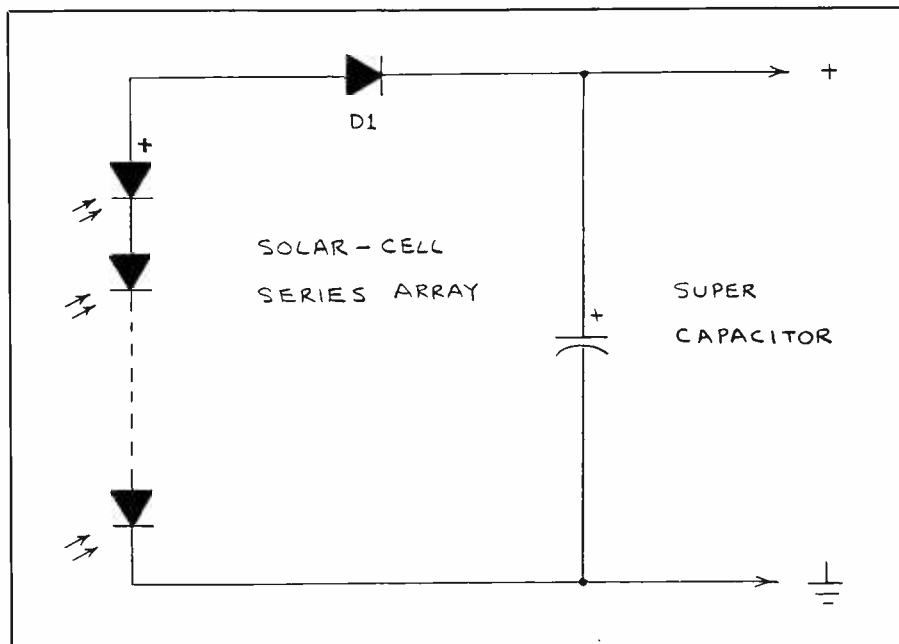

Fig. 5. Charging a super capacitor with a solar-cell array.
• **Solar-Cell Charger.** A series of solar cells can easily be used to charge a double-layer capacitor to any point between 0.5 volt (one cell) to 5 volts (10 cells). Figure 5 shows how to insert a protective diode between a solar-cell array and a super capacitor to prevent the latter from discharging through the solar cells when they are not activated by light.